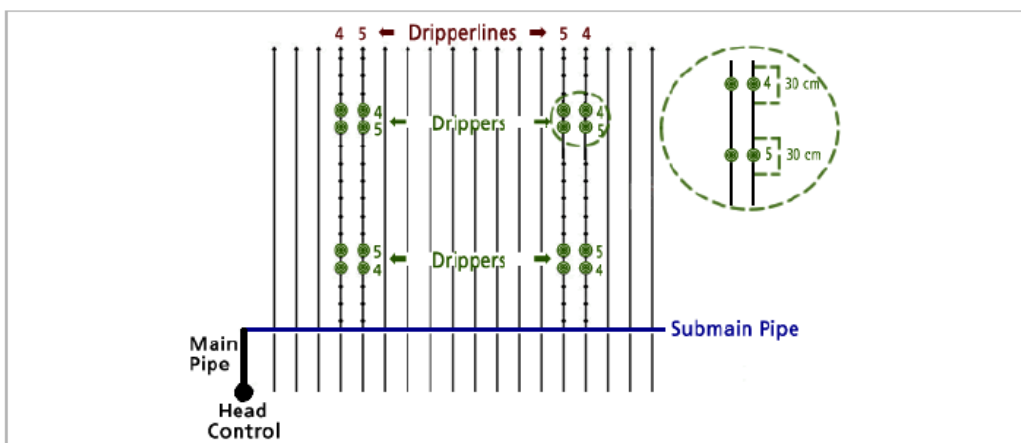

Figure 1. Taking Samples from Dripperlines
- Take the sample from 30 cm lengths of lateral sections with the dripper in the center as shown in Figure 1.